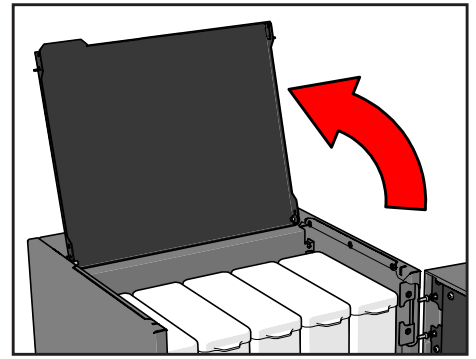

Figure 54.
2. Open the top cover (see Figure 54).